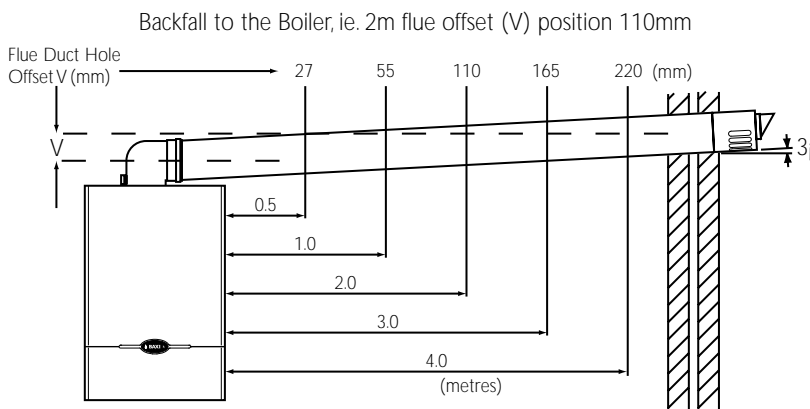

Fig. 20a
The diagram (Fig. 20a) shows the dimensions required to ensure any horizontal flue is installed with the correct fall to the boiler. Mark the offset (V) dimension and if required, mark the position of the gas and water pipes. Remove the template.